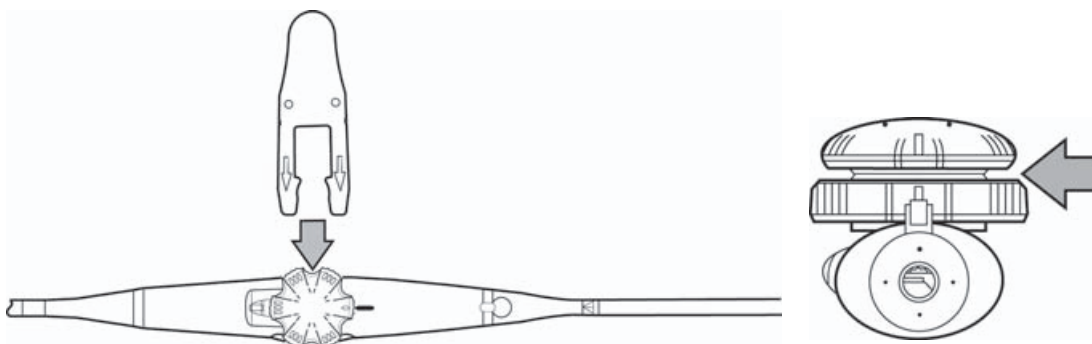

Figure 5 Insertion of the puncture test tool.
- 1 Insert the puncture test tool under the scanplane controller as shown in Figure 5. The puncture test tool is included with the TEExi and TEEp transducer.